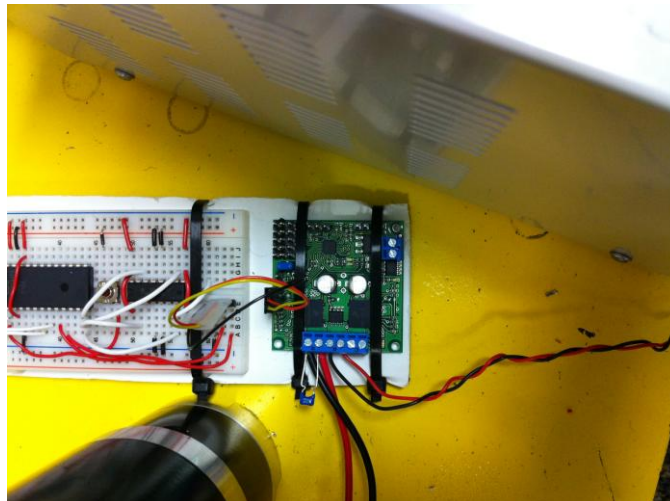

Figure 13 – Electrical connections to motor controller
- a. Unscrew the connectors on the motor controller, shown in Figure 13, and remove the wires leading to the electric motor and to the power supply. Ensure that the 0.1uF capacitor across the motor wires is not lost.